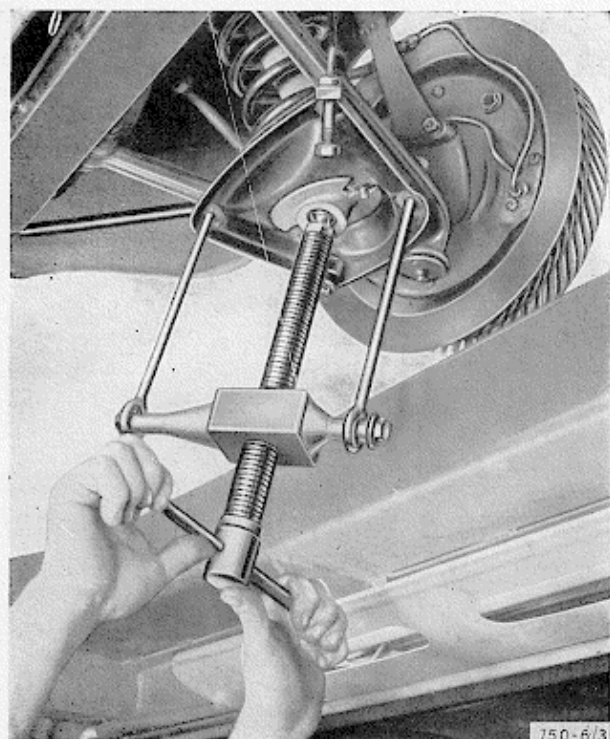

Fig. 3 - Dismantling the front suspension springs, using tool No. 6121.04.016
- 5) Remove the springs and the spring-retaining plates, using tool No. 6121.04.016 (Fig. 3).